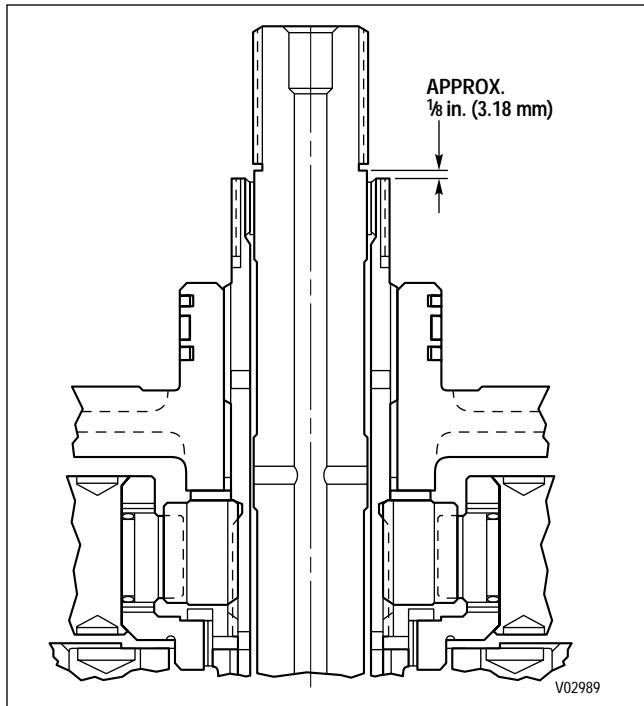

Figure 7-18. Sun Gear Shaft Clearance
- *Do not remove* the sun gear shaft assembly before checking the required clearance shown on Figure 7-18. If the clearance is less than 1/8 inch (3.18 mm), proceed with Step (2). Otherwise, skip Step (2) and proceed with Step (3).
(2) If the sun gear shaft assembly is properly seated, there should be approximately 1/8 inch (3.18 mm) distance from the end of the sun gear shaft assembly to the shoulder on the main shaft shown in Figure 7-18. If the shaft is not properly seated, a slow rotation with a slight up and down motion may seat it. If not, remove the shaft (noting its relative position to the main shaft) and center the front sun gear thrust washer so the sun gear shaft will bottom. Recheck the clearance (Figure 7-18).